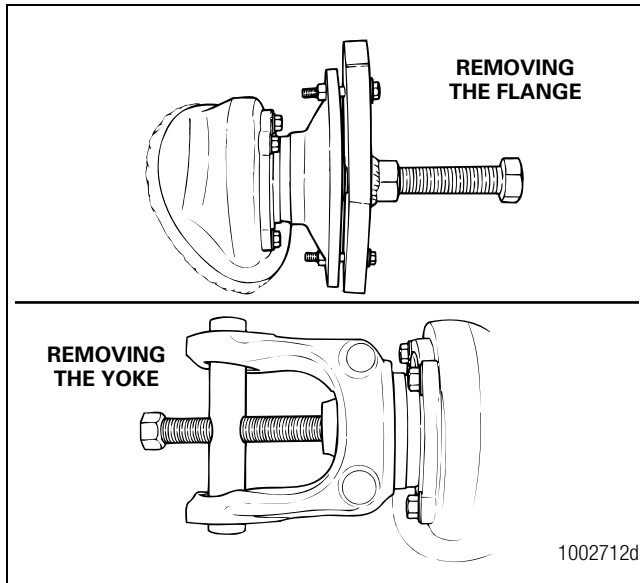

Figure 3.8
4. Remove the thru-shaft nut, washer and yoke or flange. Use a puller tool to remove the yoke or flange from the shaft. Figure 3.8.